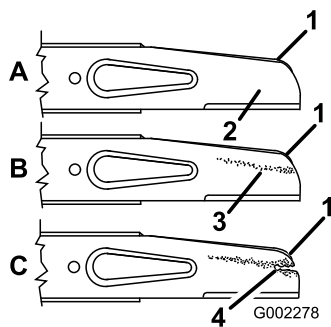

Figure 24
2. Remove the blade nuts, the accelerator, and the blade (Figure 24).